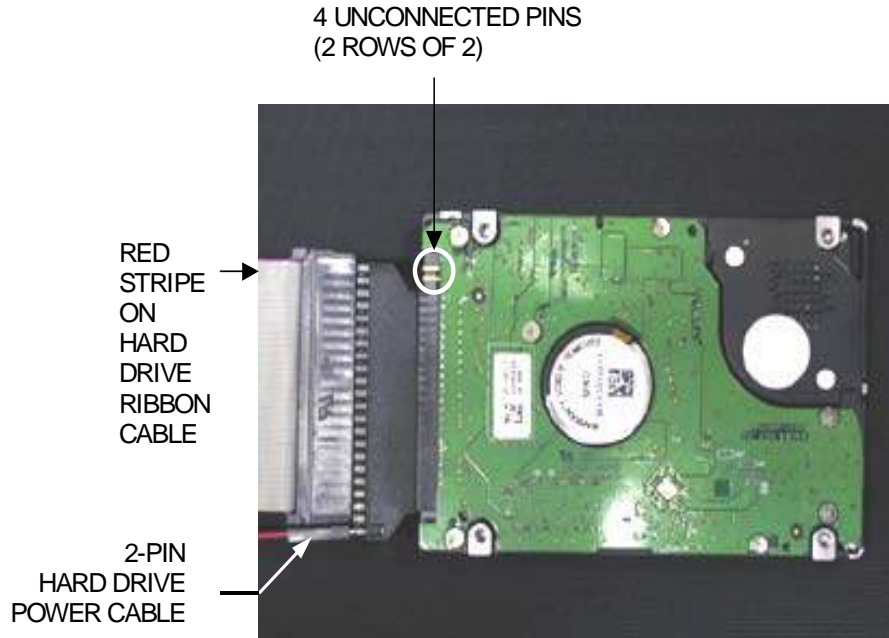

FIGURE 8- CIRCUIT-BOARD SIDE OF HARD DRIVE
4. Connect the hard drive cables to the hard drive. If your Fusion has a hard drive ribbon cable: note that 4 pins on the hard drive are set off and will remain unconnected. Make certain that the red stripe on the ribbon cable, indicating pin-1 position, is inserted facing the unconnected pins, and on the opposite side of the 2-pin hard drive power cable. (Figure 8).